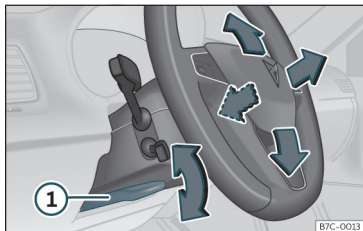

Fig. 19 Lever in the lower left side of the steering column.
• Adjusting the position of the steering wheel: pull the »»» **Fig. 19** ① lever down,